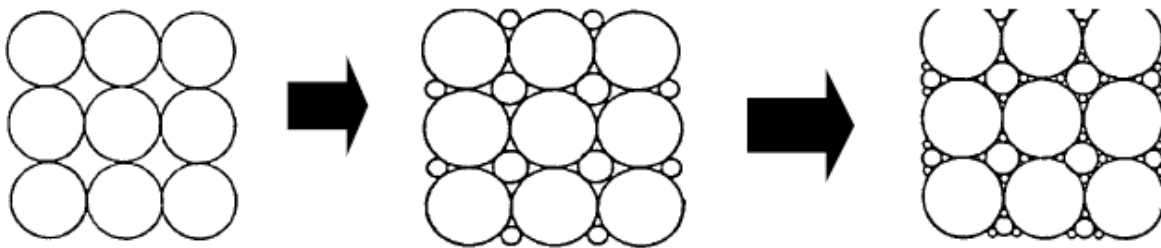

Figure 7: Effect of particle size and grading on packing density
- Grading controls packing density and therefore improves strength. See Figure 7.